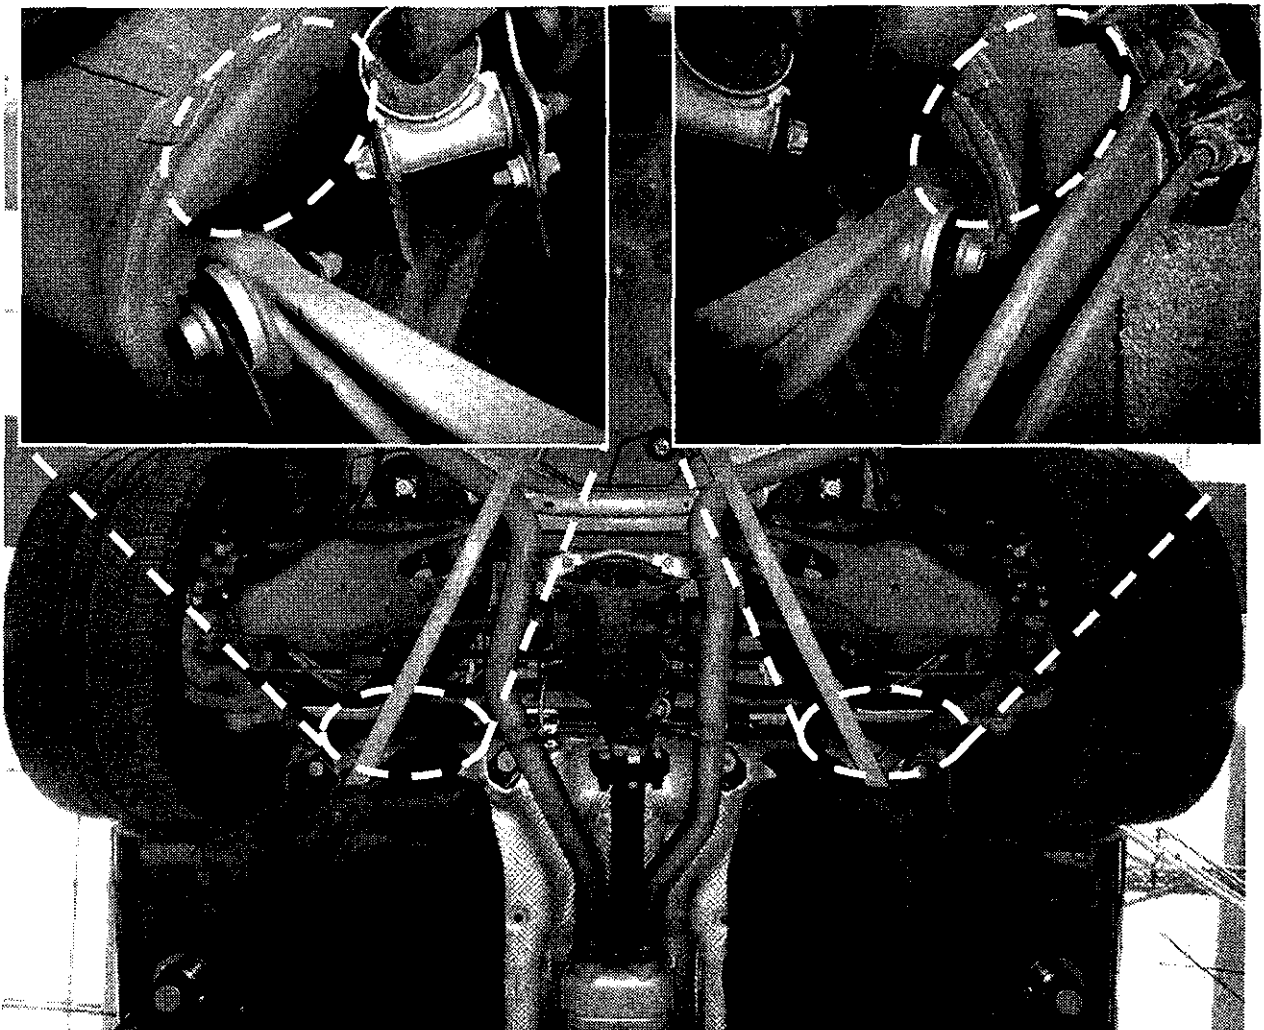

Figure 1
2.  Check weld seam (in area circled, Figure 1) at right/left rear axle cross-member for crack using mirror: